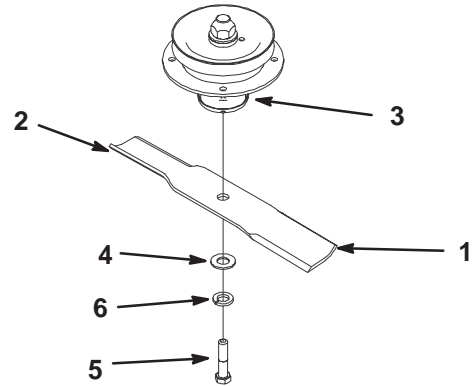
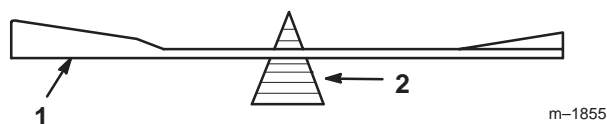

Figure 43
Figure 45
1. Hold the blade end using a rag or thickly-padded glove. Remove the blade bolt, lock washer, washer and blade from the spindle shaft (Fig. 43).
2. Check the balance of the blade by putting it on a blade balancer (Fig. 45). If the blade stays in a horizontal position, the blade is balanced and can be used. If the blade is not balanced, file some metal off the end of the sail area only (Fig. 43). Repeat this procedure until the blade is balanced.
1. Install the blade onto the spindle shaft (Fig. 43).
Important The sail part of the blade must be pointing upward, toward the inside of the mower to ensure proper cutting (Fig. 43).
2. Install the washer, lock washer and blade bolt (Fig. 43). Torque the blade bolt to 85–110 ft-lb (115–140 N•m).